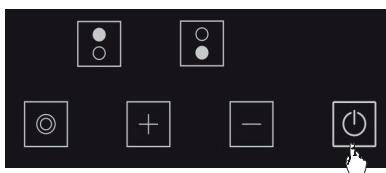

Figure 11
1. You may turn the stove off by pressing the **Ø** button. (See Fig. 11)